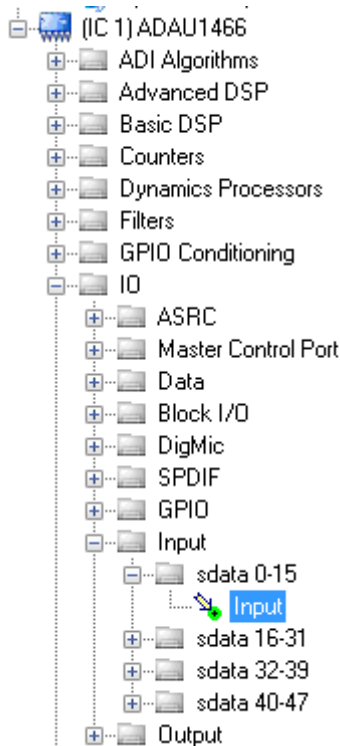
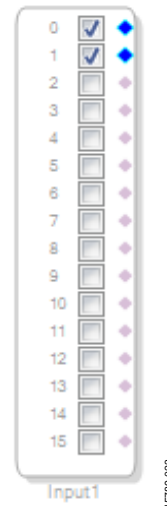

Figure 20. Input Block Selection
Figure 21. Input Block
- a. To add an **Input** block, from the (IC1) ADAU1466 > IO > Input > sdata 0-15 folder, click **Input** (see Figure 20) and drag it into the project space to the right of the toolbox (see Figure 21). By default, Channel 0 and Channel 1 are selected. This configuration matches the analog audio source hardware connections shown in Figure 11 and Figure 12; therefore, no modifications are needed.